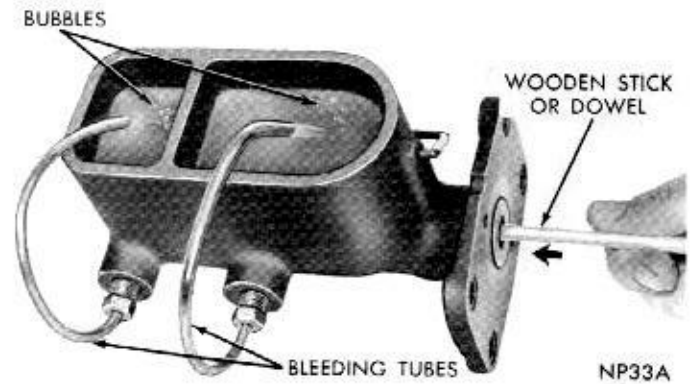

Fig. 7—Bleeding Master Cylinder
(1) Clamp master cylinder in a vise and attach bleeding tubes Tool C-4029 (Fig. 7).
(2) Fill both reservoirs with approved brake fluid.
(3) Using a wooden stick or dowel (power brake equipped vehicles) depress push rod slowly. (Note air bubbles.) Allow pistons to return under pressure of springs. Do this several times or until bubbles cease to appear (Fig. 7).